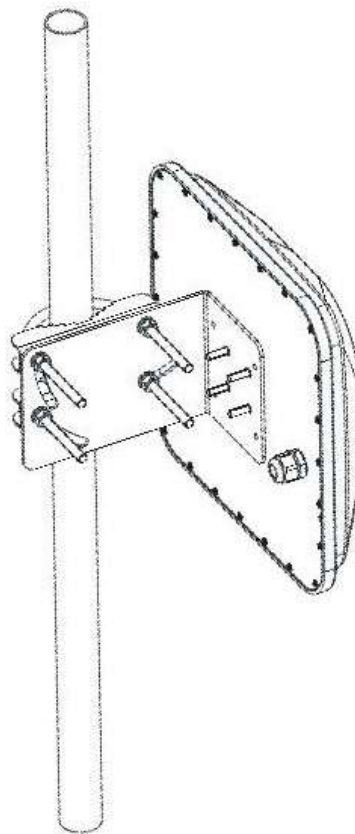

Figure 3-4 Vertical pole installation
(2) Use two U-bolts and two toothed installation brackets to fix the reader on vertical rod through the L-bracket, refer to Figure 3-4.